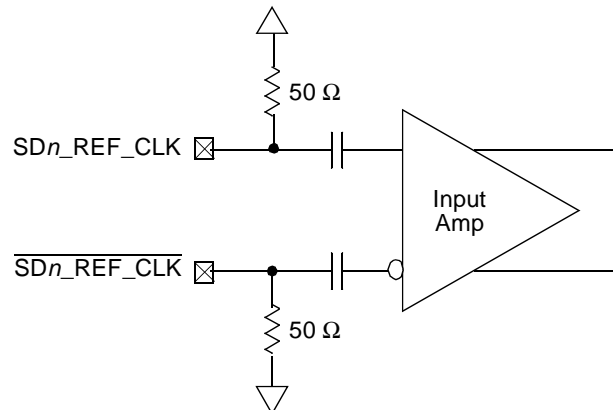

Figure 44. Receiver of SerDes Reference Clocks
Figure 44 shows a receiver reference diagram of the SerDes reference clocks. Characteristics are as follows:
- The $\overline{SDn_REF_CLK}$ and $\overline{SDn_REF_CLK}$ are internally AC-coupled differential inputs as shown in Figure 44. Each differential clock input ($\overline{SDn_REF_CLK}$ or $\overline{SDn_REF_CLK}$) has on-chip 50- Ω termination to SGND_SRDSn (xcorevss) followed by on-chip AC-coupling.